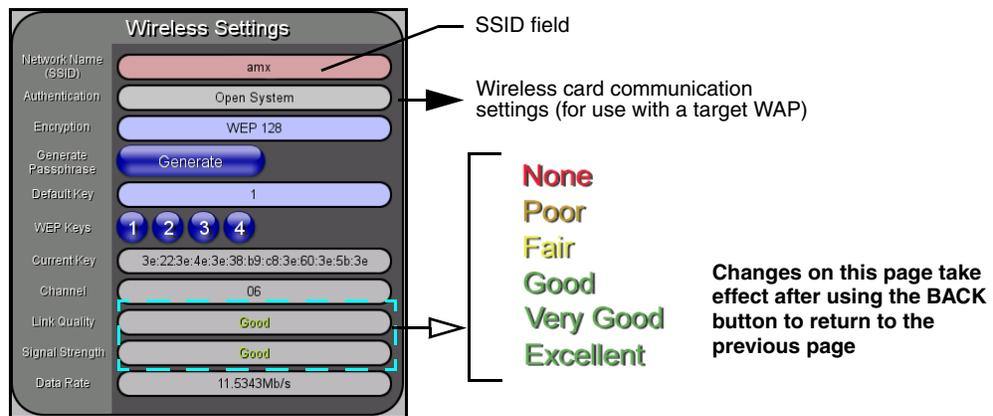

FIG. 58 Secondary Connection page (Wireless Settings section)
6. Locate the Wireless Settings section of the Secondary Connection page (FIG. 58).
9. Toggle the *Encryption* field (FIG. 58) until it reads **WEP64** or **WEP128**. *The 64/128 selection reflects the bit-level of encryption security. This WEP encryption level must match the encryption level being used on the WAP*
13. Write down this Current Key string value for later entry into your WAP's *WEP Key* field (*typically entered without colons*) and into the communicating panel's *Current Key* field (FIG. 58).